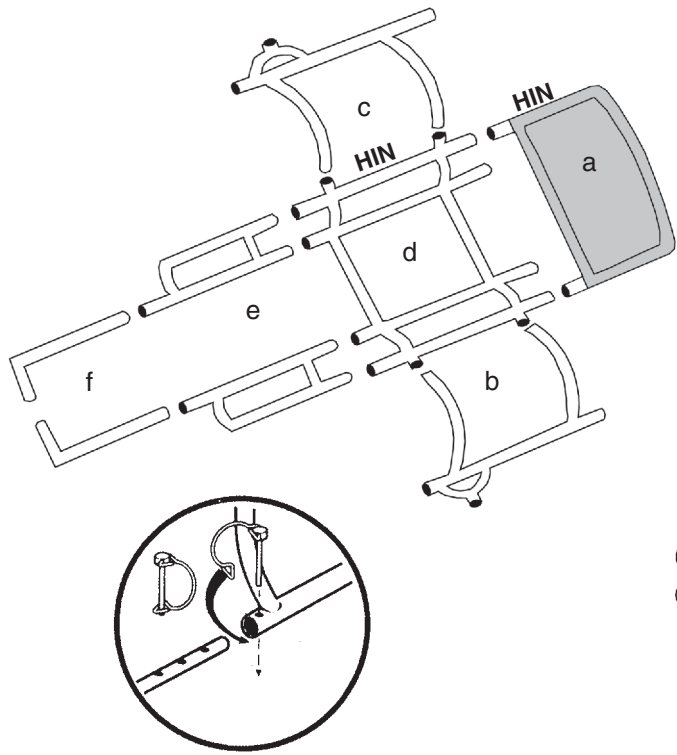

Fig. 1
1. Assemble Cargo Deck by sliding mesh Cargo Deck over Rear Frame Member (see figure 1) and secure using attached Hook and Loop and Strap to Ladder Lock Fasteners.
3. Assemble Seat Support Frame Member to Left and Right Frame Members using (4) of the Short Snap Pins (see figures 1 and 2.)
5. Assemble Cargo Deck to Left and Right Frame Members using (2) Short Snap Pins (see figures 1 and 2).
6. Assemble Foot Bar Extensions to Seat Support Frame Member. (see figure 1 and 2)
7. Assemble Foot Bars to Left and Right Frame Members using (2) Short Snap Pins (see figures 1 and 2).
HIN (HULL IDENTIFICATION NUMBER) IS LOCATED ON RIGHT SIDE OF SEAT SUPPORT FRAME MEMBER AND ON RIGHT SIDE OF CARGO DECK FRAME (SEE FIGURE 1)